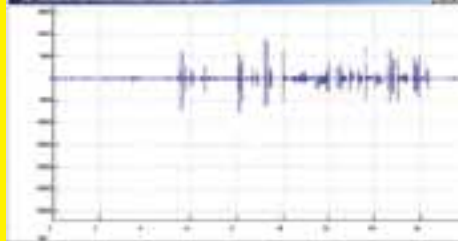

Figure 3b - Corona discharge after cleaning on a three-phase bushing
**Press the play button to hear the sound bite for Figure 3b**